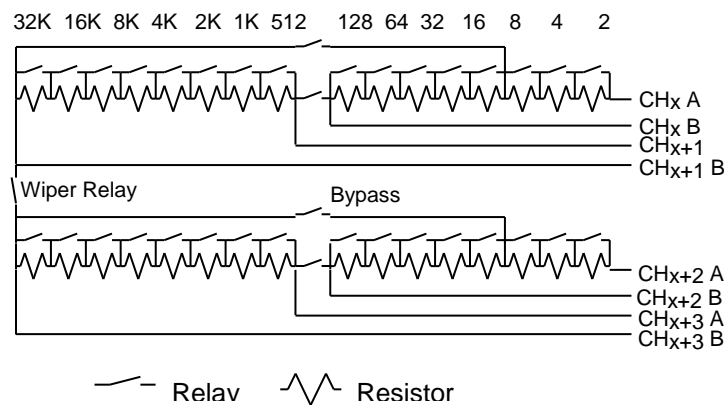

Figure 2-2: GX1164 Typical Group
Figure 2-2 illustrates the configuration of a single group. Channels 1 and 3 resistors' (CH_x and CH_{x+2}) have binary ladder values from 1Ω to 128Ω and can therefore simulate resistors from 1Ω to 255Ω. Channels 2 and 4 resistors' (CH_{x+1} and CH_{x+3}) have binary ladder values from 256Ω to 32KΩ and can therefore simulate resistors from 256Ω to 64KΩ.
Each group may also be used as double channel mode providing four programmable resistor channels of 1Ω to 65,535Ω (by combining channels 1 through 8 as shown in figure 2-2)
- One programmable resistor channel of 1Ω to 128KΩ (by combining channels 1, 2, 3 and 4 as shown in figure 2-2) with 'wiper' connection between channels 2 and 3.
- One programmable resistor channel of 1Ω to 720KΩ (by combining channels 5, 6, 7 and 8 as shown in figure 2-2) with 'wiper' connection between channels 6 and 7.